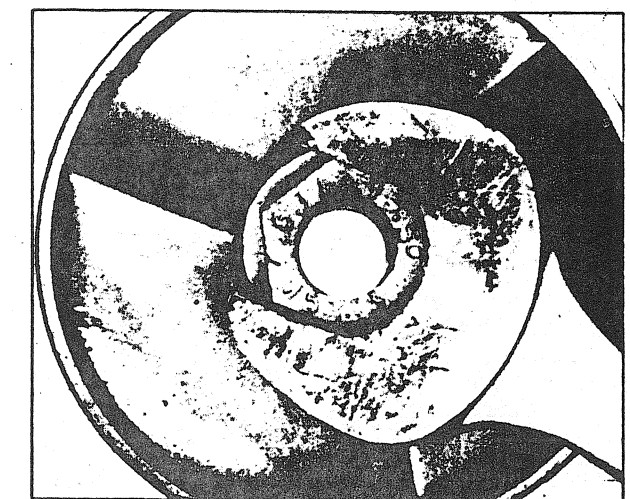

FIGURE 20
- Equally heat the impeller hub with a blow torch then using a 1 - 5/16" wrench, unscrew and remove the impeller (fig. 20).